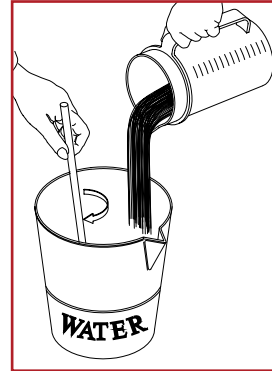

Fig. 3
2. Pour liquid into the bowl (Fig. 3).